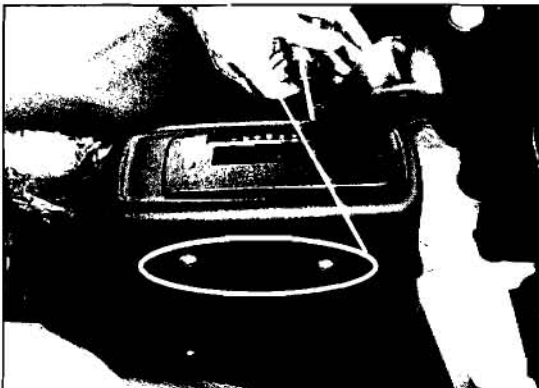

Figure 3
A) **Figure 3** - Remove the four upper side cover screws.